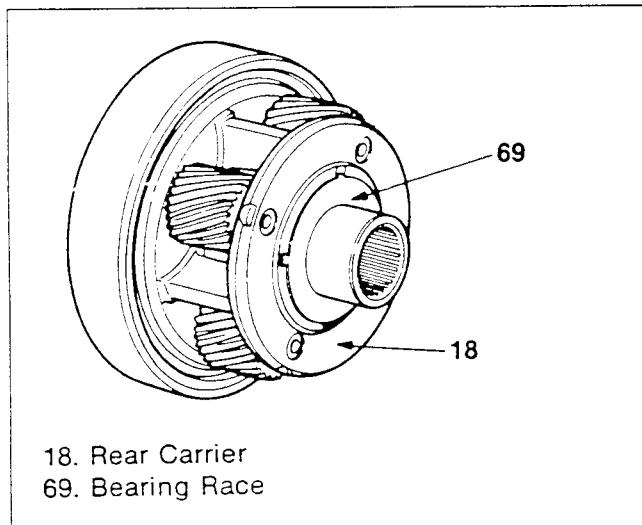

Figure 260. Rear Carrier Installation (1)
### Rear Carrier (Figures 260 and 261)
- Apply Vaseline to the bearing race and install it to the rear carrier (figure 260).